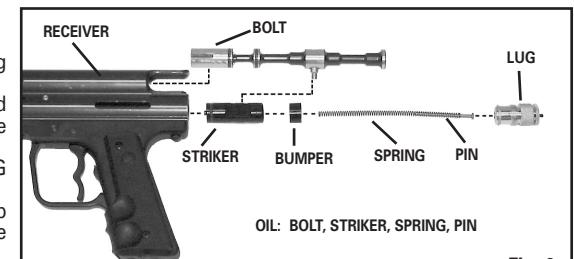

Fig. 6
- With the paintball marker "On Safe" (See Step 2A), and the CO₂ source removed (See Step 3B), unscrew the LUG. (Fig. 6)
- After drying, IMMEDIATELY oil the parts with paintball marker oil as indicated in Fig. 6. DO NOT use a petroleum distillate based oil or solvent as they can cause damage to your paintball marker.
NOTE: Failure to properly oil the parts where indicated in Fig. 6 can result in rust.
- Assemble the BOLT and STRIKER together and push them back into the RECEIVER as shown in Fig. 6. **IMPORTANT:** You must be pulling the trigger at the same time in order for the parts to fit completely back into the RECEIVER.